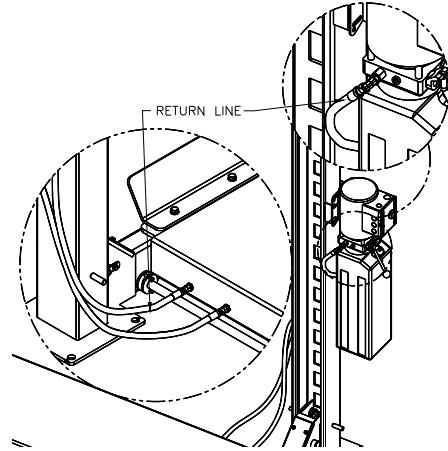

Fig 19 – Return Line, Front
- 35) Remove the 3/8-18 NPT plug on the side of the power unit and attach the 90 degree elbow at a slightly downward angle. Secure the hose to the bulkhead shown in Fig 19.